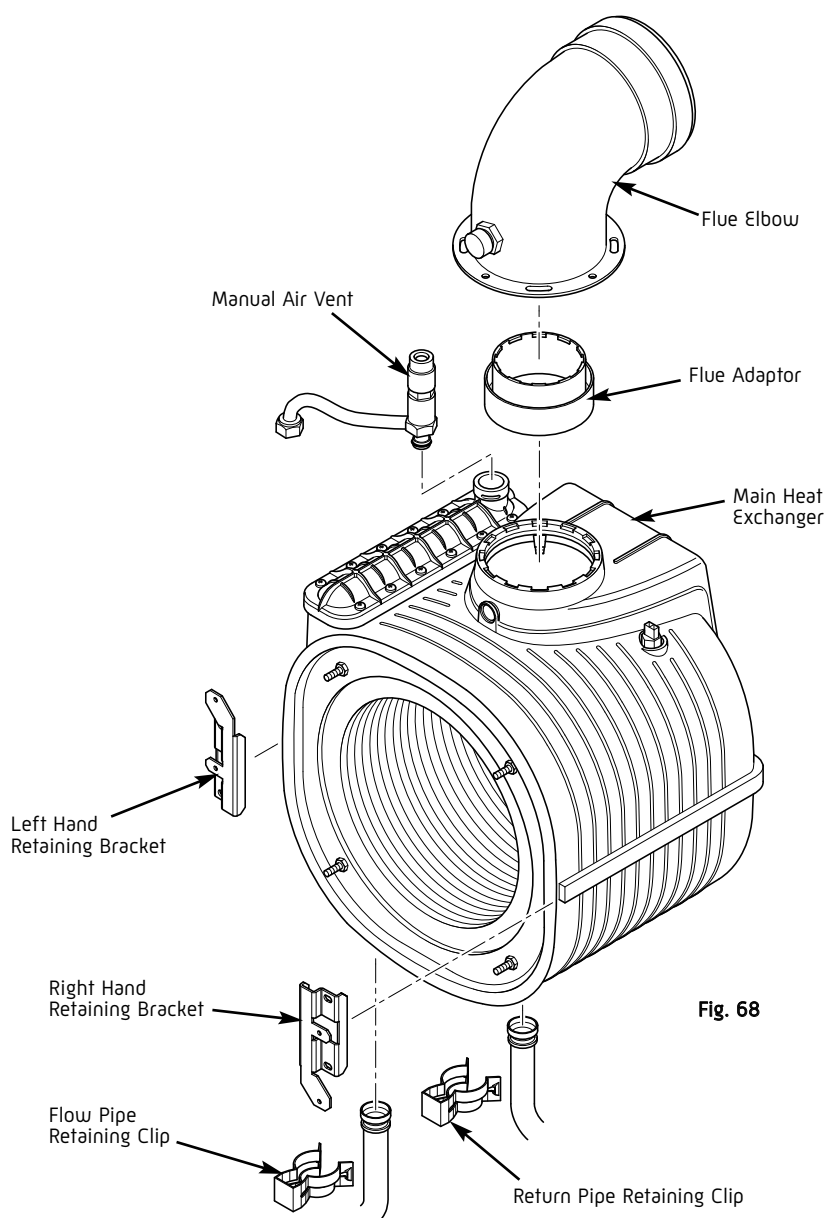

Fig. 68
6. Remove the two clips from the flow and return pipes on the bottom of the heat exchanger and slide out the pipes (Fig. 68).